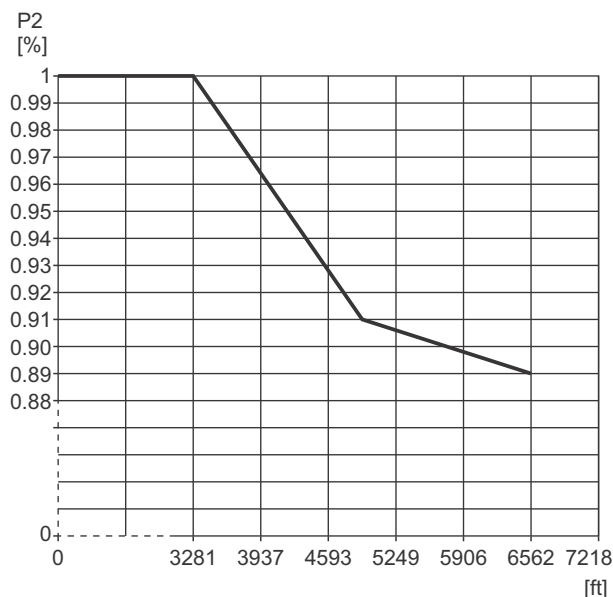

Fig. 17 Derating of motor output power (P2) in relation to altitude above sea level
- Motors installed more than 3280 ft (1000 m) above sea level must not be fully loaded due to the low density and consequent low cooling effect of the air. See fig. 17.